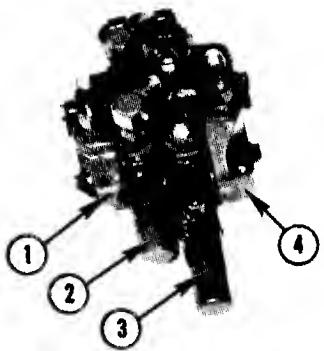

FIG. 5.5--MAIN COMPONENTS ASSEMBLED.
1. Stand the control valve on the heads of the three tie-bolts and remove the nuts and washers from the tie-bolts. The plates and bodies are indentified in figures 5.5. and 5.6.